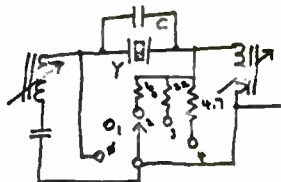

Figure 6
Figure 6 is a typical crystal-filter circuit, such as found in many Collins receivers. This one has 5 positions, marked 0, 1, 2, 3, and 4. Position 0 bypasses the filter completely, thus eliminating the crystal from the signal path. Position 1 has infinite resistance (no connexion) giving the widest possible selectivity with the crystal. Positions 2, 3, and 4 have resistors of 100k Ω , 22k Ω , and 4.7k Ω each respectively, and respectively sharper selectivity down the line. A short circuit across the resistance path would result in the sharpest selectivity, but it would be much too sharp to have practical use.
The purpose of capacitor "C" in Figure 6 is to neutralise the capacitance of the crystal holder (Y). It is called a "phasing capacitor".